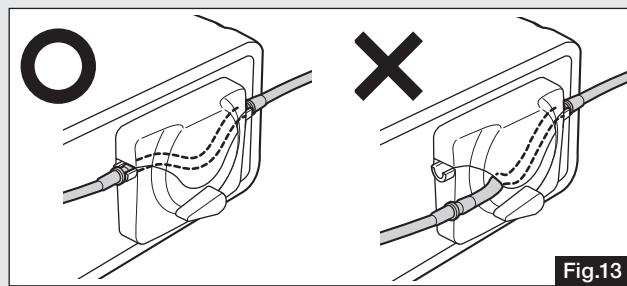

Fig.13
- After having confirmed that the Irrigation Tube is properly set on the roller, CLOSE the Knob of the Irrigation Pump. If the Knob is turned to CLOSE with the Irrigation Tube displaced from the proper position, the Irrigation Tube might become damaged (Fig. 13).